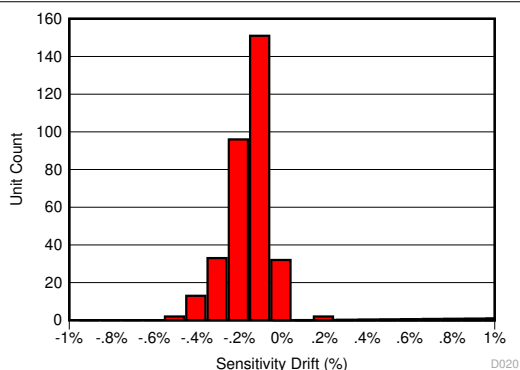
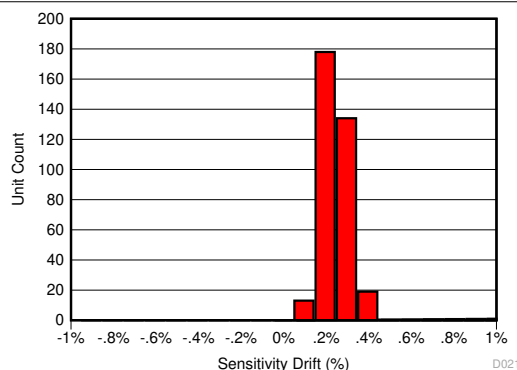
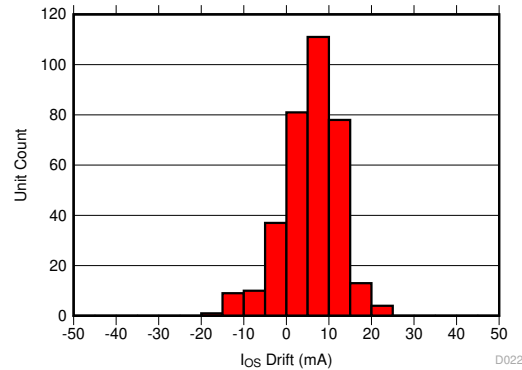

Figure 9-6. Sensitivity Error After 130°C, 85% RH HAST
Figure 9-7. Sensitivity Error Drift After AEC-Q100 High Temperature Operating Life Stress Test
Figure 9-8. Input-Referred Offset Drift After AEC-Q100 High Temperature Operating Life Stress Test
The same compensation techniques used in the TMCS1101-Q1 to reduce temperature drift also greatly reduce lifetime drift due to aging, stress, and environmental conditions. Typical magnetic sensors suffer from up to 2% to 3% of sensitivity drift due to aging at high operating temperatures. The TMCS1101-Q1 has greatly improved lifetime drift, as defined in the Electrical Characteristics for total sensitivity error measured after the worst case stress test during a three lot AEC-Q100 qualification. All other stress tests prescribed by an AEC-Q100 qualification caused lower than the specified sensitivity error, and were within the bounds specified within the Electrical Characteristics table. Figure 9-6 shows the total sensitivity error after the worst-case stress test, a Highly Accelerated Stress Test (HAST) at 130°C and 85% relative humidity (RH), while Figure 9-7 and Figure 9-8 show the sensitivity and offset error drift after a 1000 hour, 125°C high temperature operating life stress test as specified by AEC-Q100. This test mimics typical device lifetime operation, and shows the likely device performance variation due to aging is vastly improved compared to typical magnetic sensors.